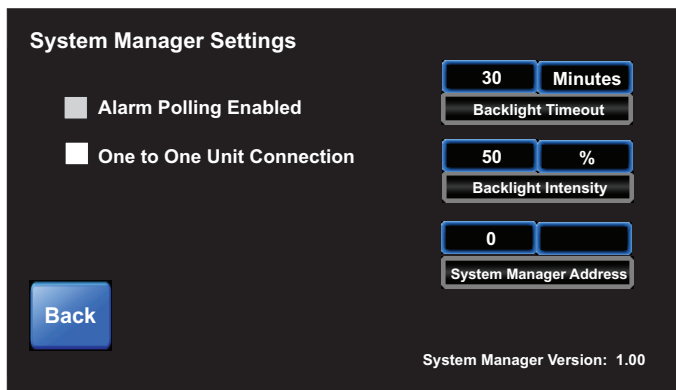

Figure 15: System Manager Settings Screen
NOTE: System Access will automatically default to **System Secured** after the time set for **Backlight Timeout** in the *System Manager Settings Screen* has elapsed (see **Figure 15, page 16**). If timeout is set to zero, the passcode will timeout after two minutes.
From the *Main Screen*, touch the **<Settings>** icon. The *System Manager Settings Screen* will appear. See **Figure 15**.
1. **Alarm Polling Enabled** must be selected in the *Systems Settings Screen* (see **Figure 15, page 16**).